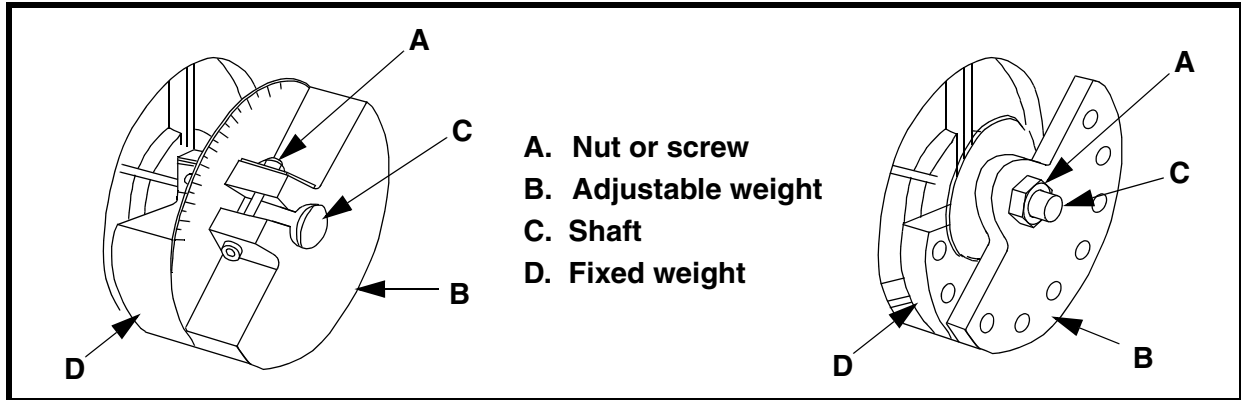

Figure 9. Adjusting Eccentric Weights
3. Loosen nut or screw (A, Figure 9) so adjustable weight (B) will rotate around shaft (C).